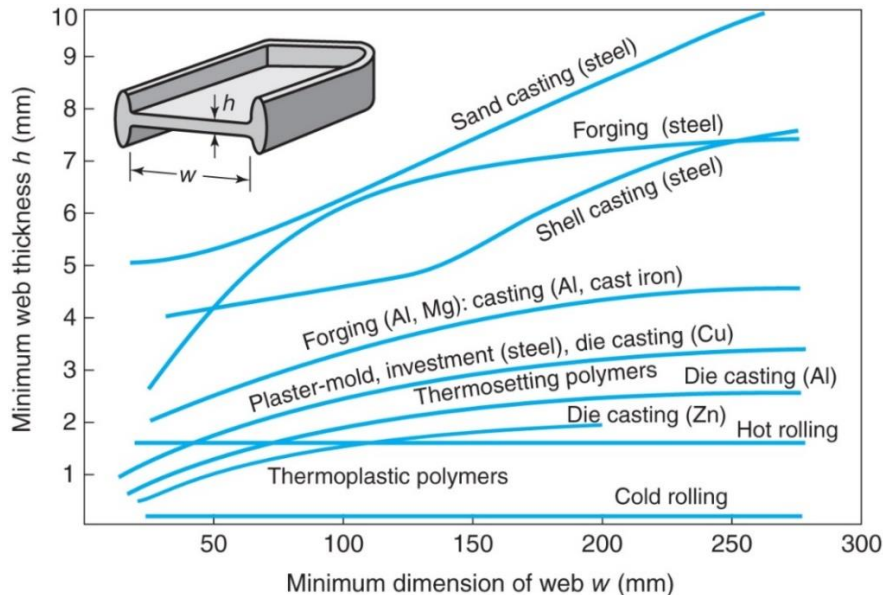

Figure 4[b]
- [b] Figure 4[b] shows manufacturing process capabilities for minimum part dimensions.**
- (i) What is meant by manufacturing process capabilities? By referring to Figure 4[b], select THREE(3) different manufacturing processes and describe their capabilities.**